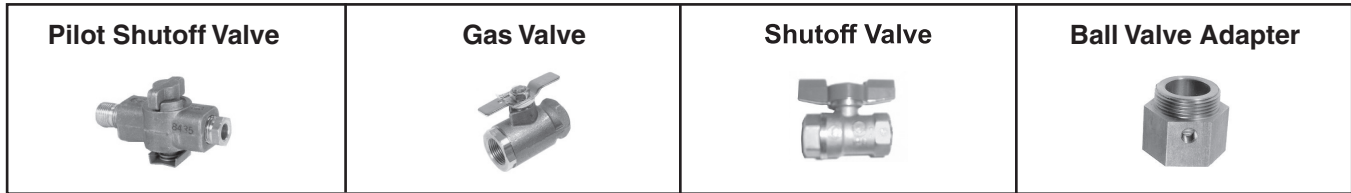

Figure 17. Manual Gas Valves (Refer to Table 24)
- Manual gas valves are shown in Figure 17 and listed in Table 24.